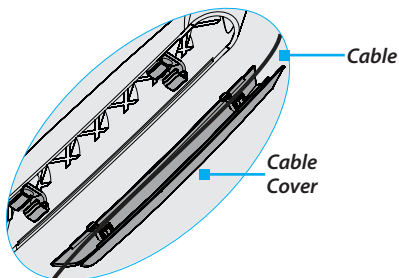

Figure 19
5. Run the cables along the inside of the **Cable Cover** that you removed from the bottom portion of the **Spring Arm**. (Figure 19)